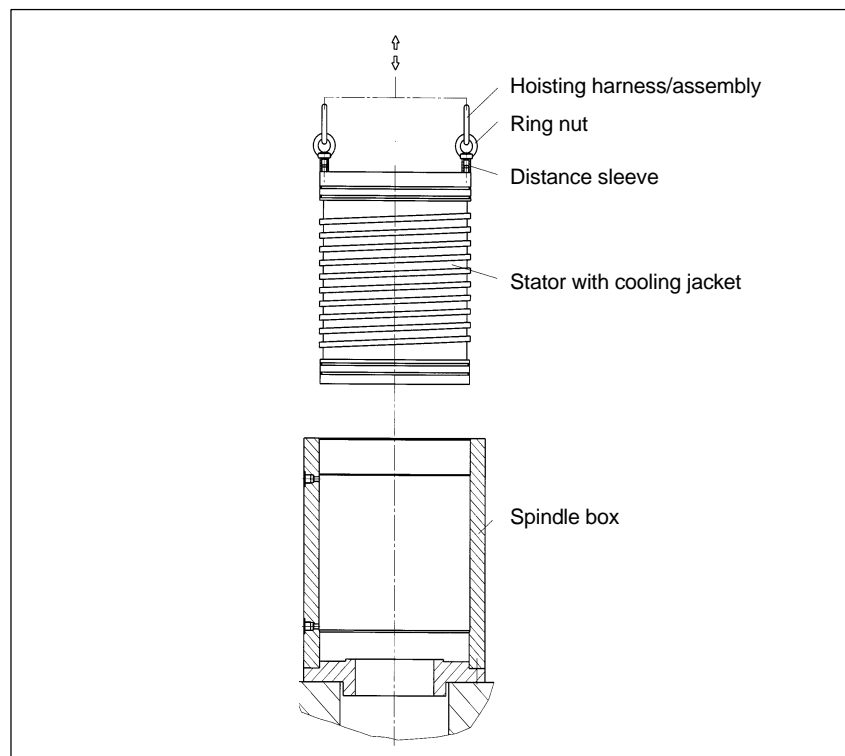

Fig. 1-9 Transporting and installing the built-in stator
- Allow the stator to slide, centered into the spindle housing (refer to Fig. 1-9). Suitable transport lugs should be used to hoist the built-in stators, e.g. ring bolts acc. to DIN 580.